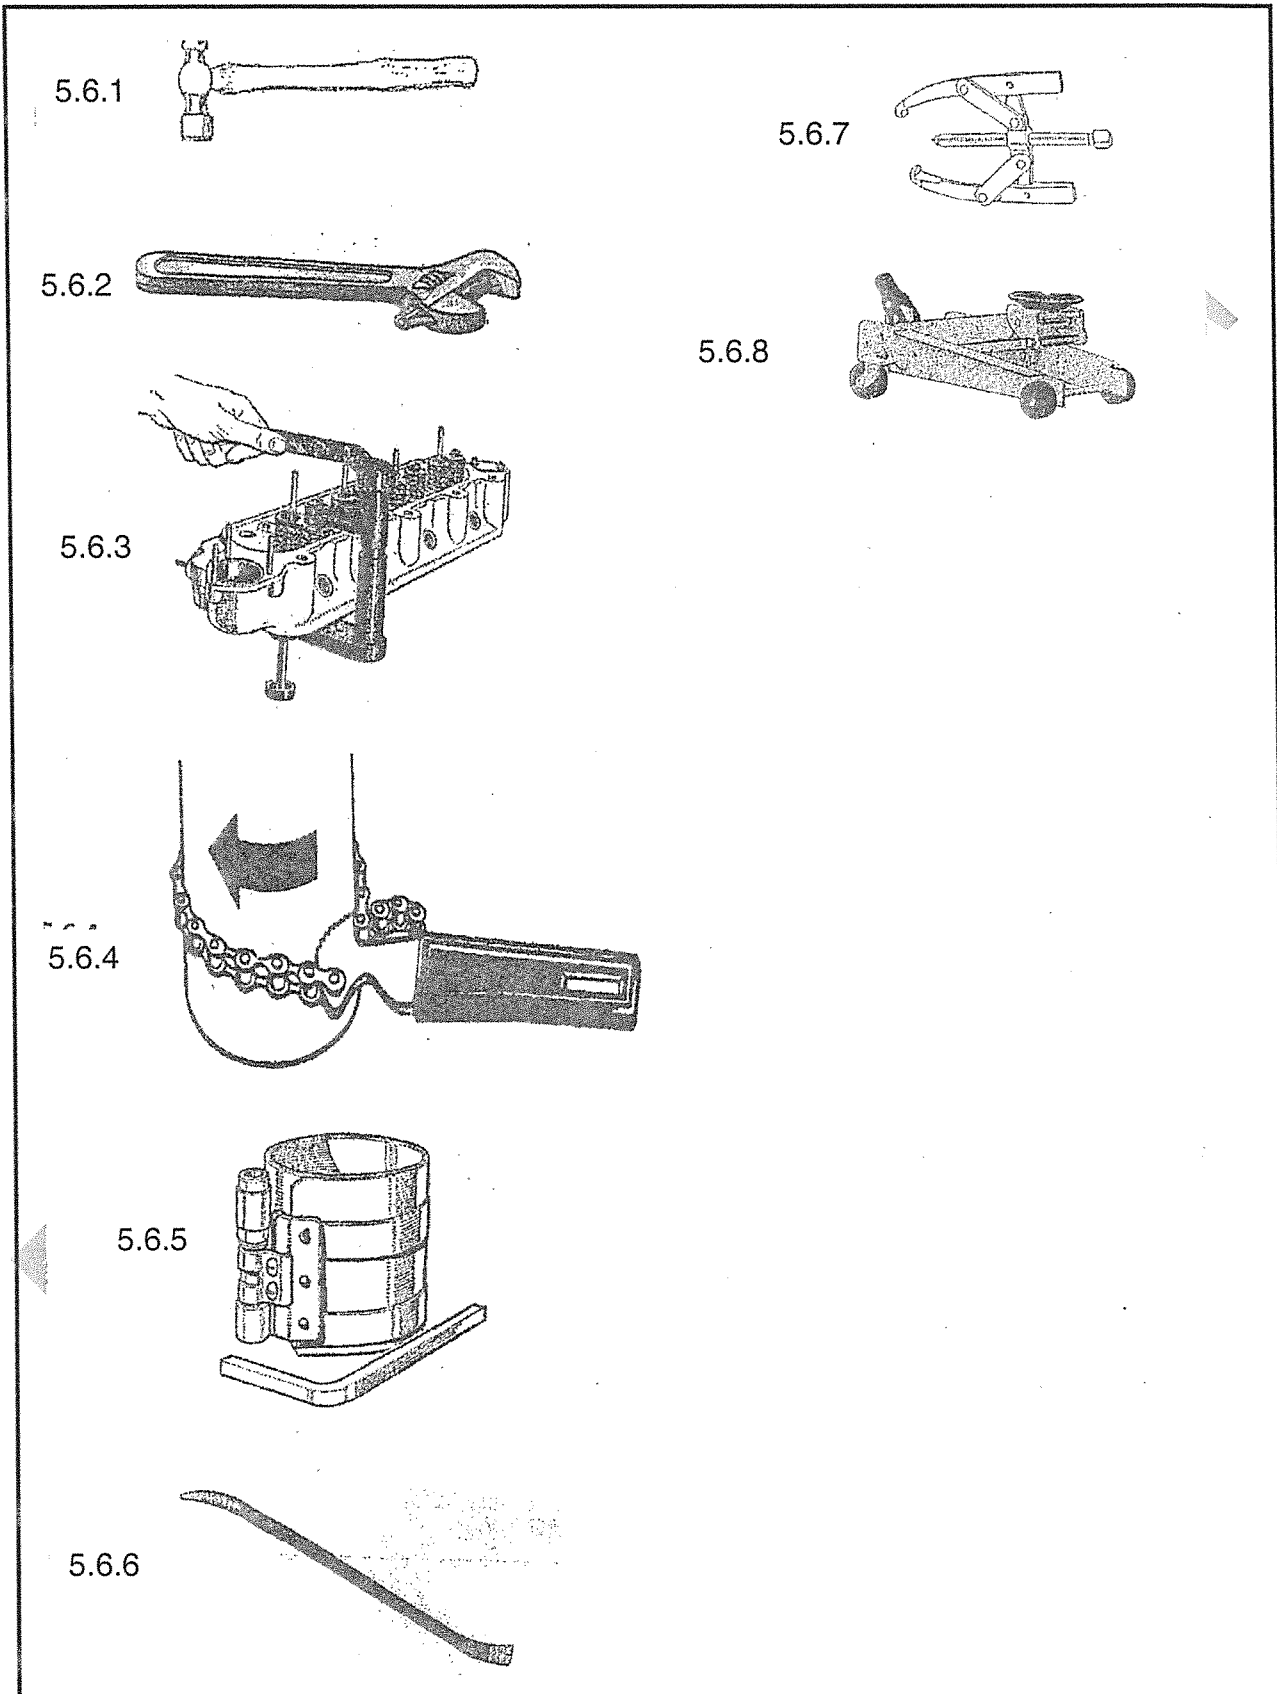

FIGURE 7
- 5.6 FIGURE 7 Diagram SHEET 4 (attached) shows various tools used in the workshop.